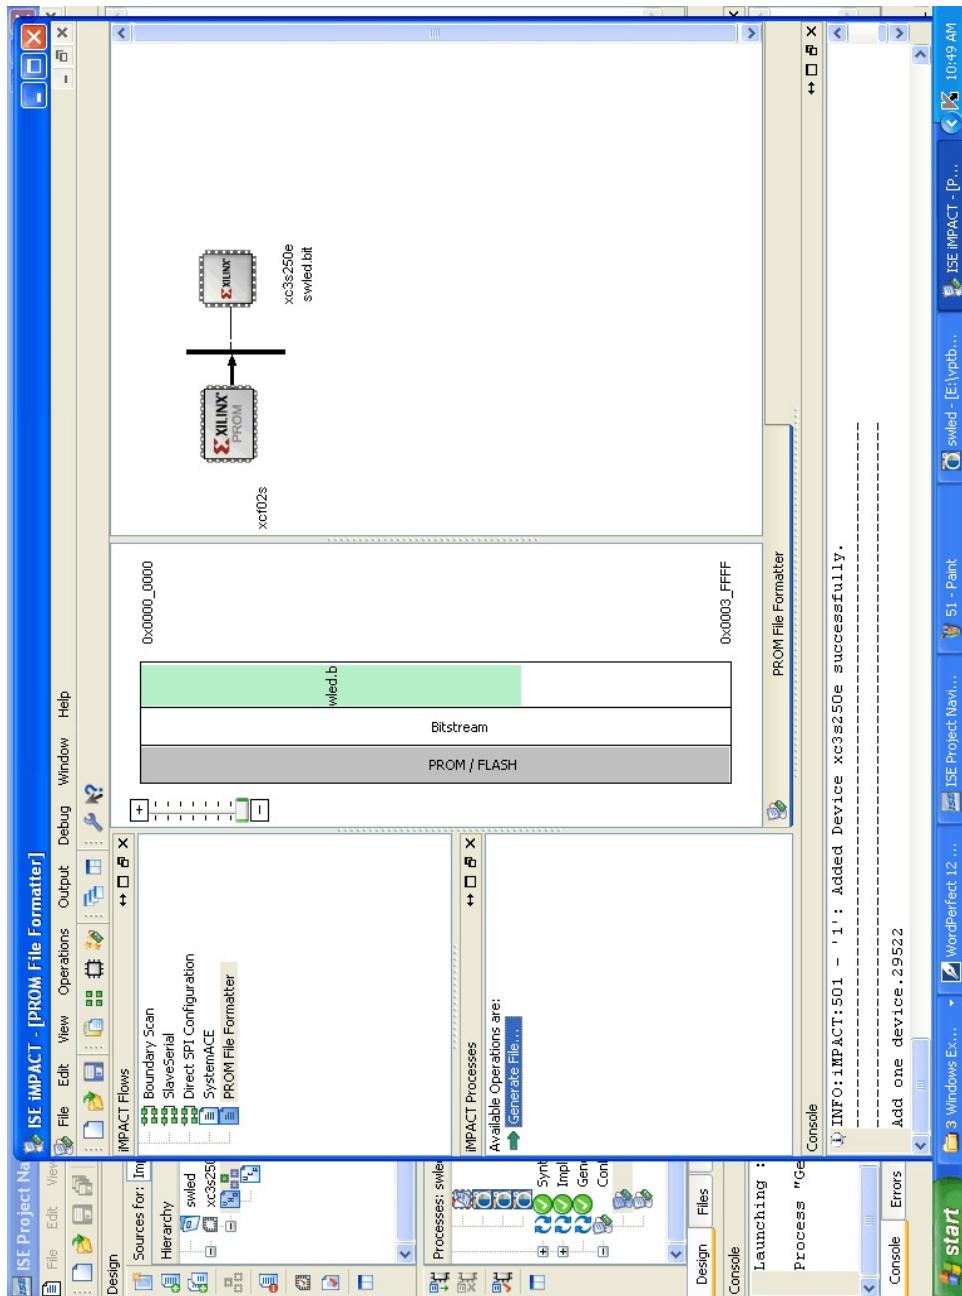
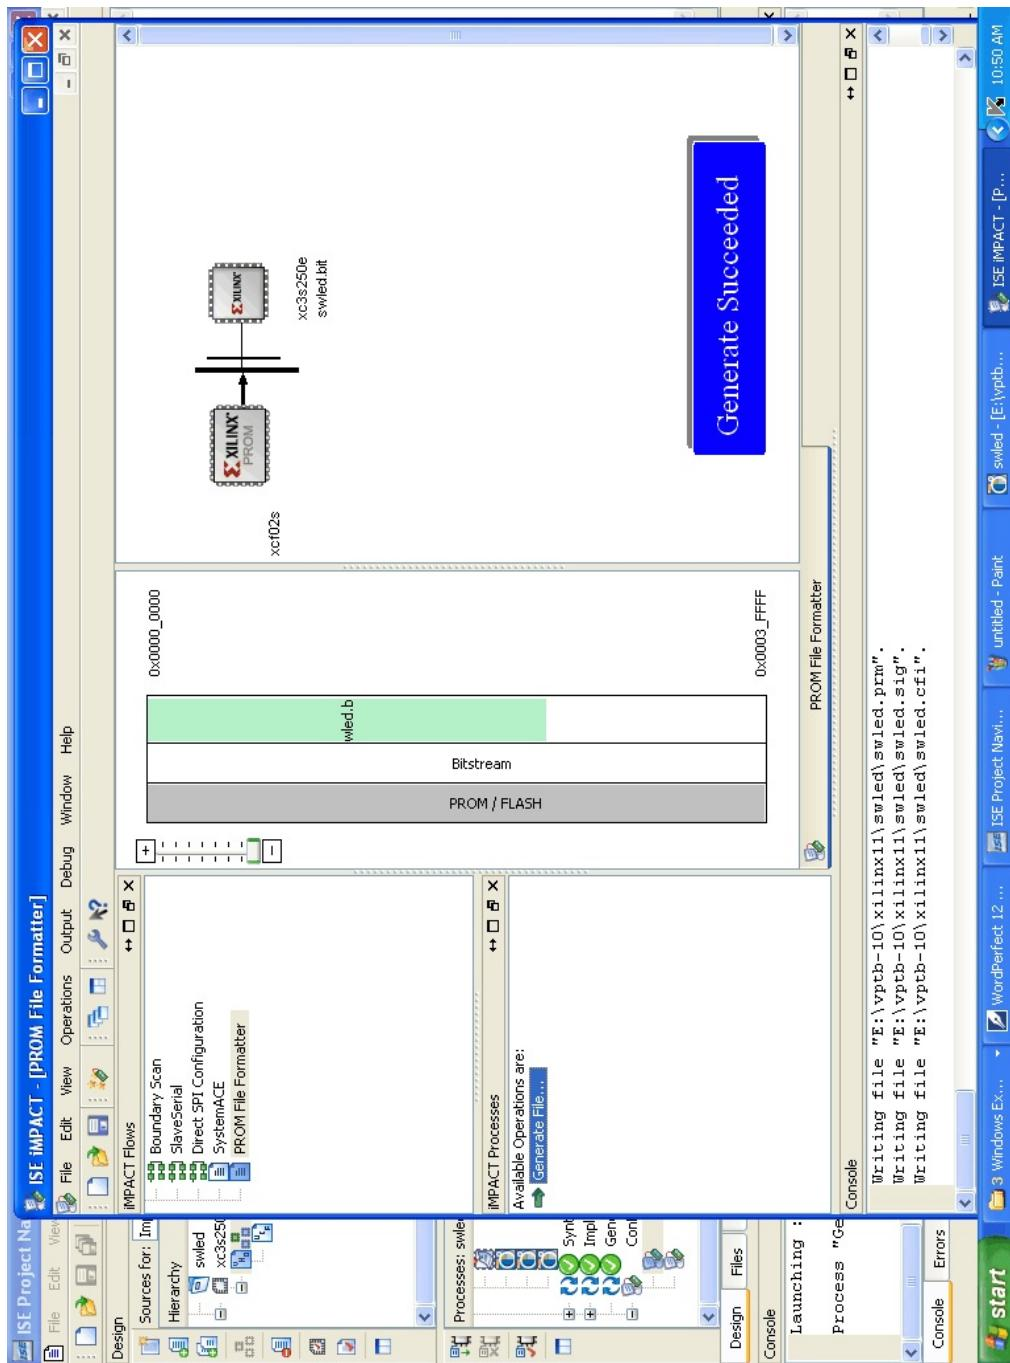

Figure-52
Figure-53
21. In the **ISE iMPACT(PROM File Formatter)** window double click the **Generate File...** option under the **iMPACT Processes:** category as shown in **Figure-52**. Then **PROM file** is generated, after which the message “**Generate Succeeded**” will appear in bold that is shown in **Figure-53**.